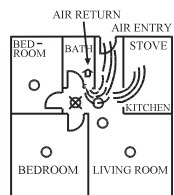

Figure 6:
- When air streams passing by kitchens, the way how a smoke detector can sense combustion particles in normal air-flow paths is graphically shown in Figure 6, which indicates the correct and incorrect smoke detector locations concerning this problem.